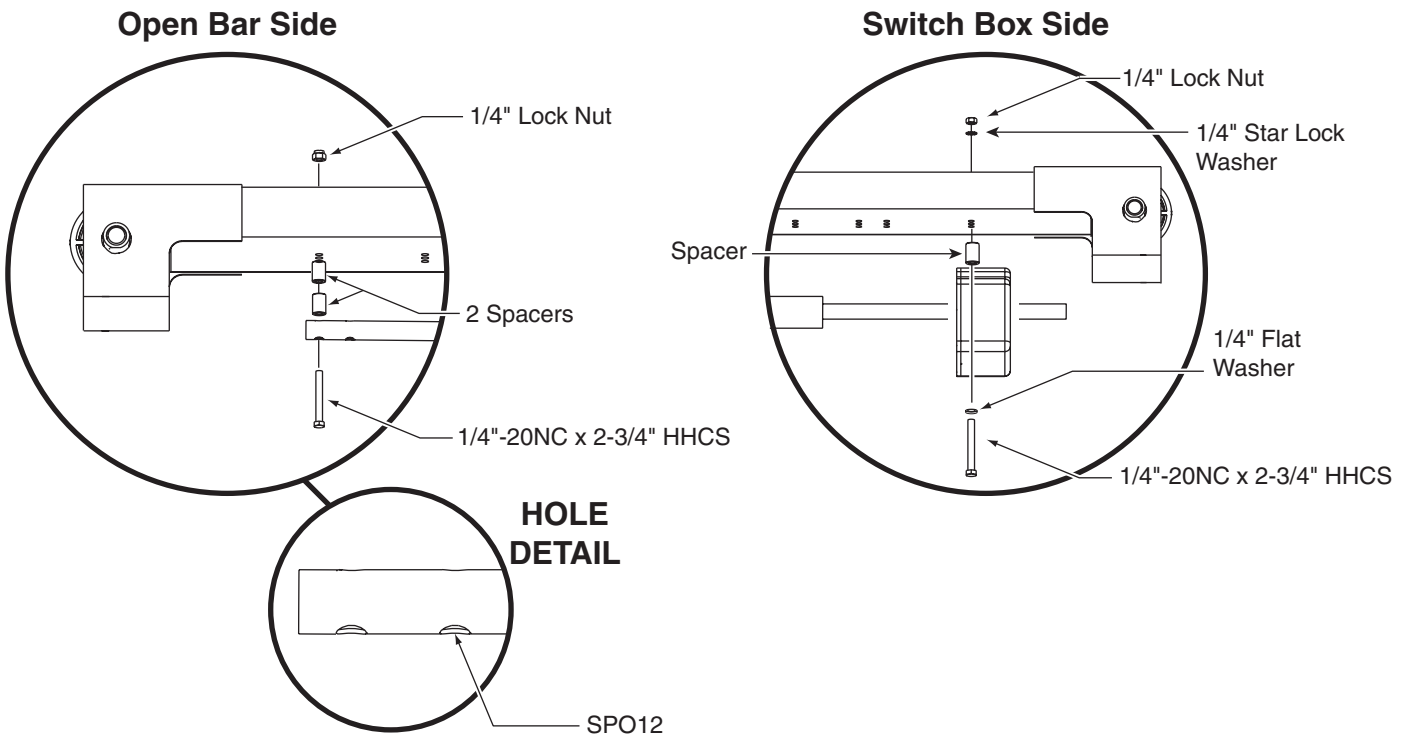
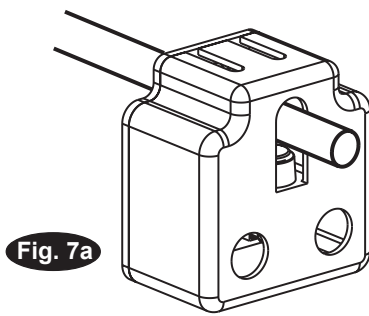
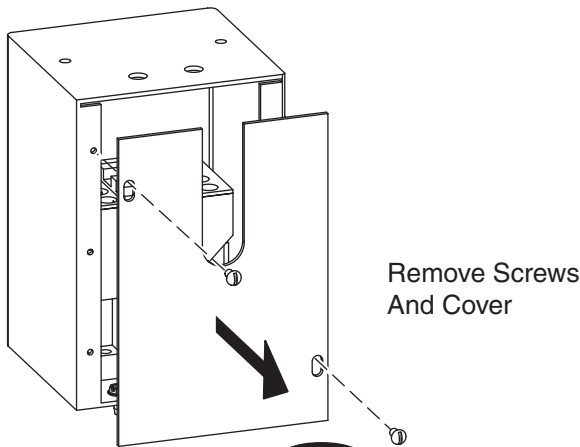

Fig. 6
Fig. 7a
Fig. 7b
6. Overhead Assembly: Adjust overhead to 114" between centerline of sheave pins, Fig. 6. Install (4) 3/8"-16NC x 2-3/4" Flanged HHCS & Flanged Locknuts, do not tighten. Install overhead stiffener angle inside center of overhead using (4) 3/8"-16NC x 1" Flanged HHCS and Flanged Locknuts, see Fig. 6. Slide switch box over switch bar ensuring lockout holes face the power unit column. Use (2) 1/4"-20NC x 2-3/4" lg. HHCS, (2) flat washers, (2) 3/4" spacers, and (2) 1/4" star washers and nuts to mount switch box to overhead, Fig. 7a.
7a. For single phase lifts: Insert (2) 1/4"-20NC x 2-3/4" HHCS through pivot hole in end of switch bar. Insert opposite end of bar through slot in switch mounting bracket. Then add spacers between the limit switch box and the overhead, Fig. 6, using (2) spacers and 1/4"-20NC Locknut. Tighten Hex bolt leaving 1/16" gap between the spacer and the overhead assembly.
7b. For three phase lifts: Remove Limit Switch cover, Fig. 7b. Insert Actuator end of Switch Bar into slot located inside Limit Switch, Fig. 7c. A small amount of silicone sealant on the lower part of the actuator will help hold it in place. Insert 1/4"-20NC x 2-3/4" HHCS through pivot hole in end of Switch Bar. NOTE which hole to use, Fig. 6. Then secure HHCS and Switch Bar to overhead as shown, using (2) 3/4" spacers and 1/4"-20NC Locknut. Tighten Hex bolt leaving 1/16" gap between the spacer and the overhead assembly, Fig. 6. Replace limit switch cover.